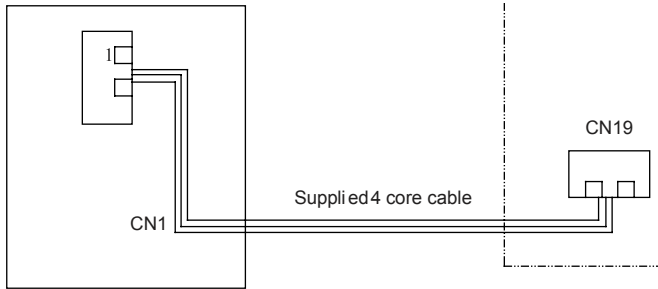

Fig.12 Power/communication wiring illustration of wired remote controller
When connect wired controller to main board showed as Fig.12, use a 4-core cable to set up a communication wiring from CN19 terminal on the main board to CN1 terminal on the wired controller. Make sure the power is shut off before the wiring; check if the wiring is properly connected and prevent any short circuit after finishing this step one more time. There are 4 pieces of wires in the cable of controller (all included in the 4-core cable). Count from upper right direction of wiring terminal are the name of the wires: earth wire (GND), communication wire A (A), communication B(B), power wire (+12V)